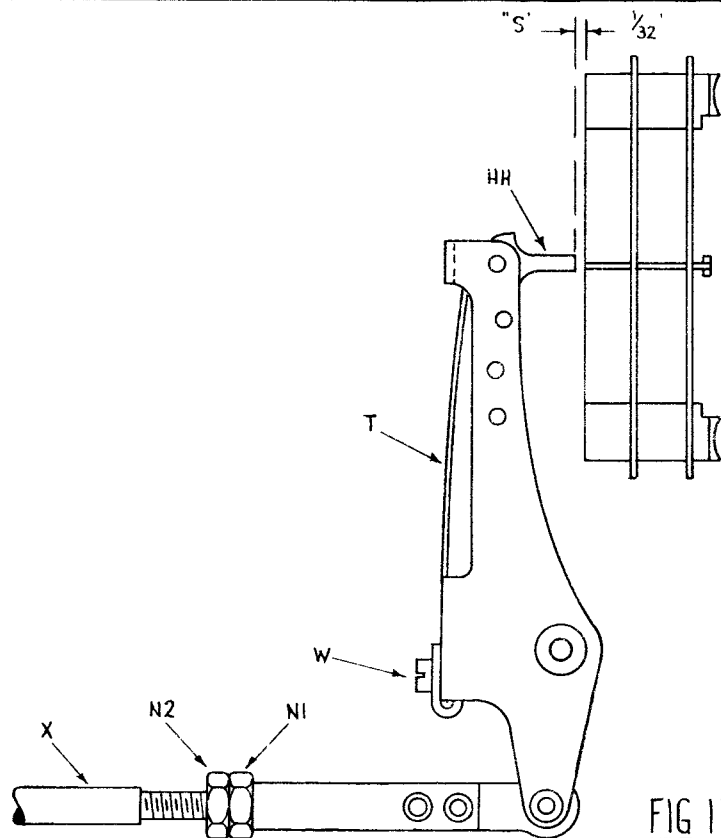

FIG. 11
- 19 SELECT LTR. SHIFT COMBINATION (++++); THEN "N" (--+-) ON FINGERS: TURN CAM UNTIL "N" BELLCRANK FALLS. LATCH CLUTCH ON THIS BELLCRANK. ADJUST DIMENSION "S" (FIG 11) USING NUTS N1 AND N2. LOCK NUTS TOGETHER.